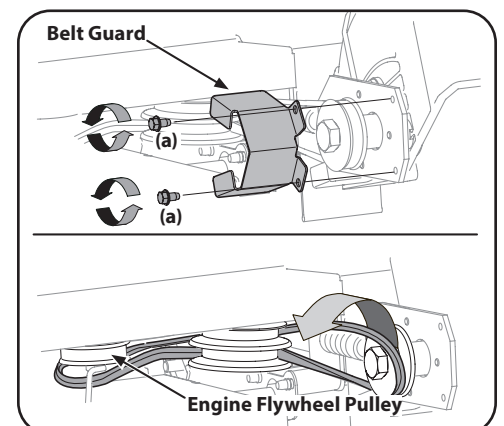

Figure 4-4
3. Remove the spindle sheaves belt guard by removing the two self-tapping screws (a) which secure it to the blade plate assembly. See Figure 4-4.
4. Carefully remove the belt from off of the pulleys, again making sure to note the orientation of the belt. Discard the belt. See Figure 4-4.
**NOTE:** Make certain that the "V" side of the belt is seated into the top pulley and the flat side of the belt is seated into the bottom pulley. See Figure 4-4.